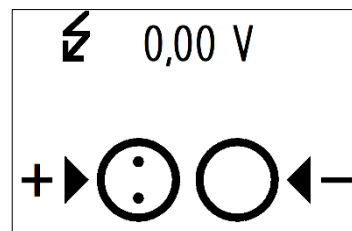

Figure 24: Connecting Screen (other)
By pressing the Measurement Other-button  in the Start Menu the function test starts and the Connecting Screen (Figure 24) is shown.
5.5.4 The Connecting Screen (Figure 24) appears. Plug the clamp on the housing of the ULD next to the type plate and connect the jack of the Ulyser with the single water switch pin of the ULD (Figure 38). Maintain the connection until the measurement is completed. Note: The correct polarity between Ulyser and ULD is essential to perform the measurement properly! Note: The clamp must not contact the type plate!	 Figure 38: Connect with ULD